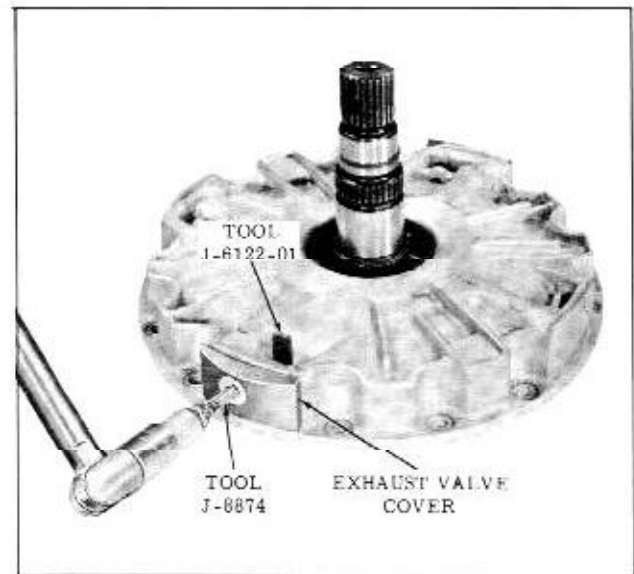

Fig. 3-66 Removing Exhaust Valve Covers
1. Install Tools J-6122-01 Exhaust Valve Retainers, then remove the exhaust valve covers by removing the attaching screws, using Tool J-8874. (Fig. 3-66)